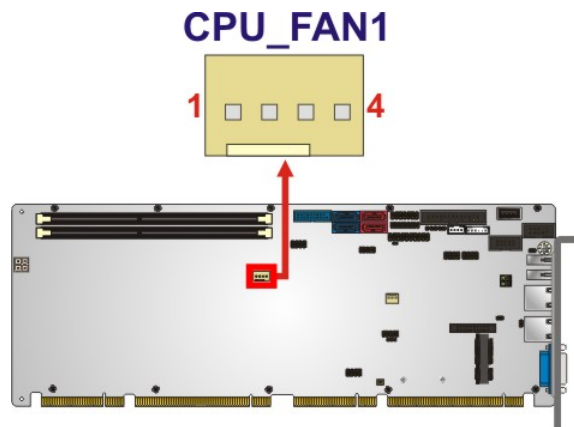

Figure 3-9: CPU Fan Connector Location
- CN Location:** See Figure 3-9